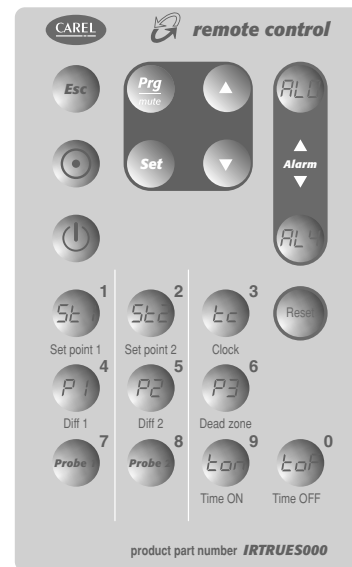

Fig. 3.q
- Direct display/editing of the most common parameters (Fig. 3).